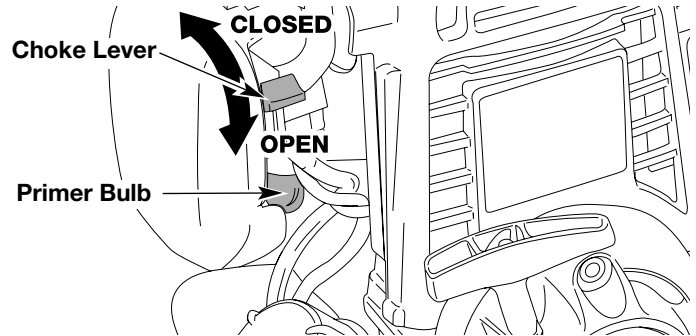

Fig. 6
4. Adjust length to fit the operator's size. Pull tab to lengthen, pull strap to shorten (Fig 6).
3. When starting a cold engine or after refueling, fully press and release the primer bulb 10 times, slowly. Some amount of fuel should be visible in the primer bulb and fuel lines (Fig. 6). If you can't see fuel in the bulb, press and release the bulb as many times as it takes before you can see fuel in it.
4. Move the choke lever into the choke or closed position (Fig. 6).
6. Move the choke lever into the run or open position (Fig. 6).